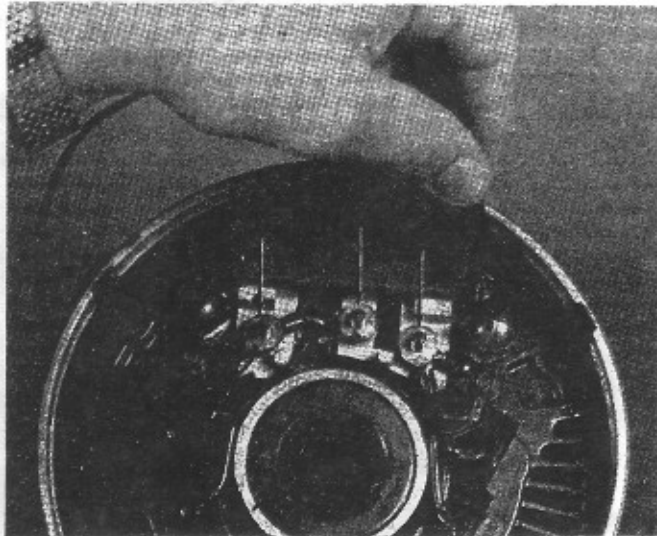

Figure 10
9.2.2 Connect negative (-) test lead to each of the three eyelet terminals. Fig. 10.